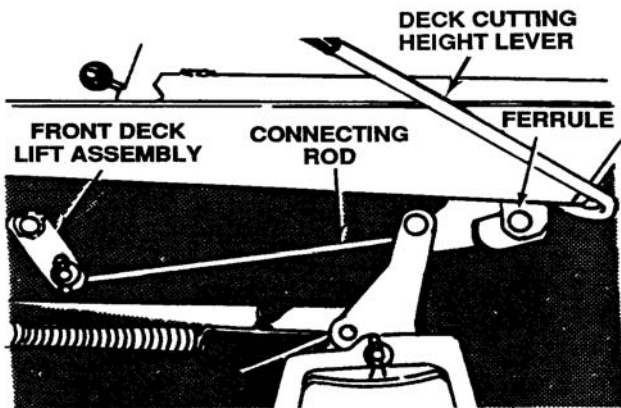

Figure 12-17. Deck Front-To-Rear Pitch Adjustment
2. Remove the hairpin cotter and flat washer which hold the deck lift connecting rod to the front deck lift assembly. See Figure 12-17.